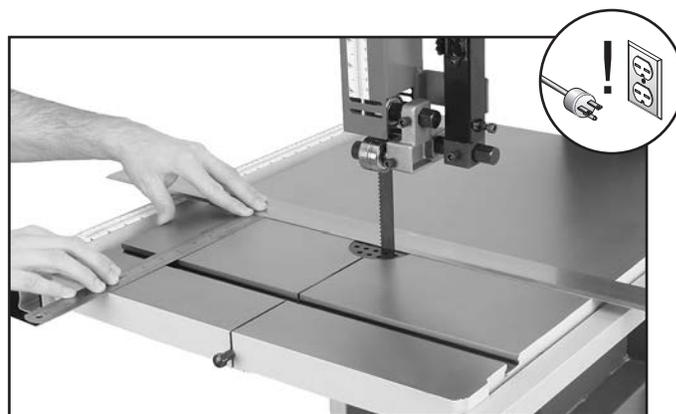

Figure 27. Measuring for miter slot to be parallel with blade.
5. Use a fine ruler to gauge the distance between the straightedge and the miter slot. The distance you measure should be the same at both the front and the back of the table (see **Figure 27**).